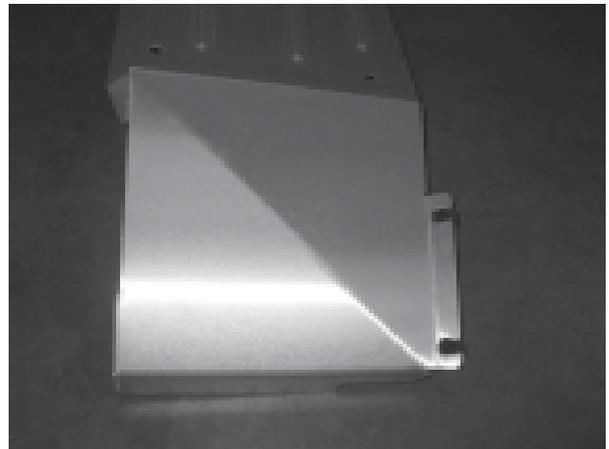

Figure 1
2. Install M6 u-nuts to inside flange of each skid plate as shown. **(Figure 1)**